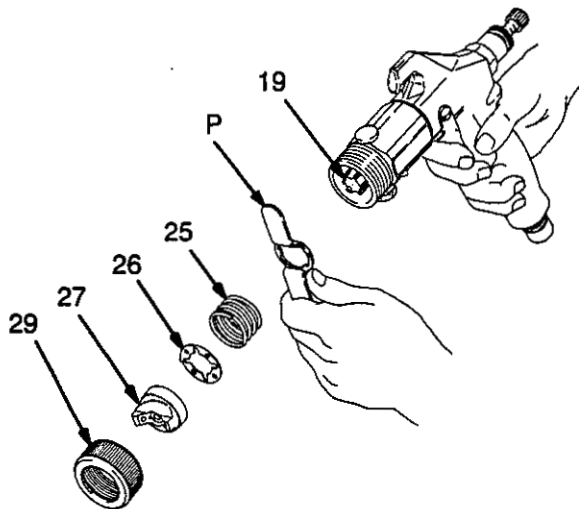
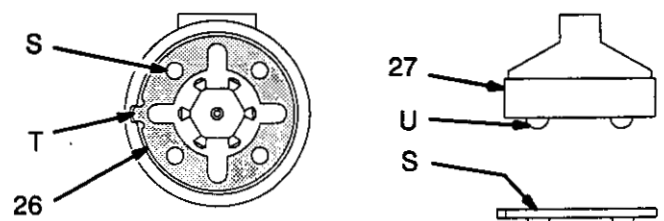

Fig. 26
Fig. 28
2. Remove the air cap retaining ring (29), air cap (27), spring (25), and detent plate (26). See Fig. 26.
3. Trigger the gun while you remove the fluid nozzle (19) with the nozzle wrench (P), provided. See Fig. 26. Clean the gun as instructed on page 15.
5. Trigger the gun while you install the fluid nozzle (19) with the nozzle wrench (P). See Fig. 26.
6. Install the spring (25) into the front of the gun.
7. Install the detent plate (26) into the gun housing with its open sockets (S) facing up; align the detent plate tab (T) with the notch in the gun housing. See Fig. 28.
8. Install the air cap (27), aligning the air cap balls (U) with the detent plate sockets (S). See Fig. 28. Secure the air cap with the air cap retaining ring (29).